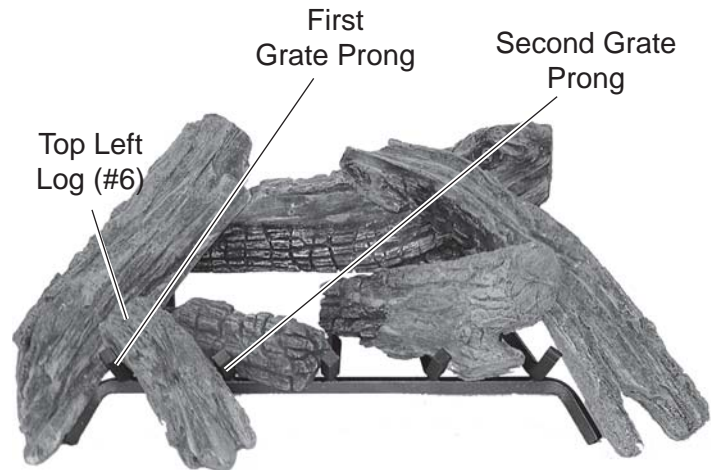

Figure 81 - Resting Top Left Log (#6) on Bottom Left Log and Back Log
7. Place end of Top Left Log #6 on bottom left log. Rest the other end between the first and second grate prongs. *See Figure 81.*